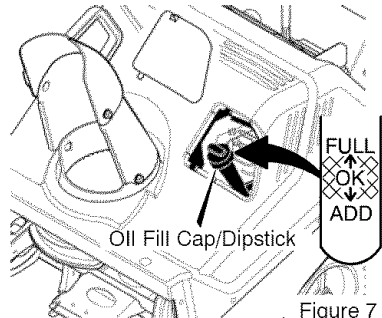

Figure 7
5. If necessary, add oil until the oil reaches the FULL mark on the oil fill cap/dipstick (see Figure 7). Do not add too much oil.